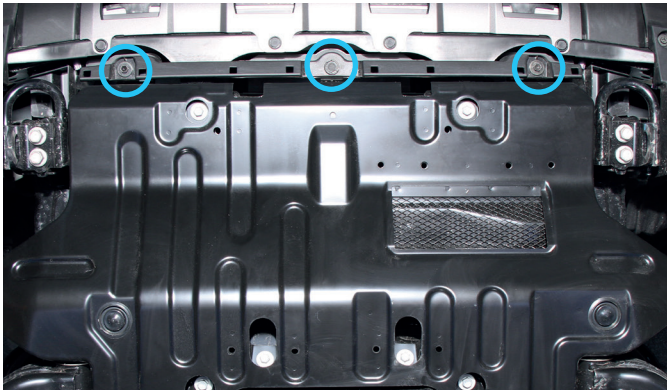

Fig. 1
1. Remove factory plastic cover as shown in fig.1.